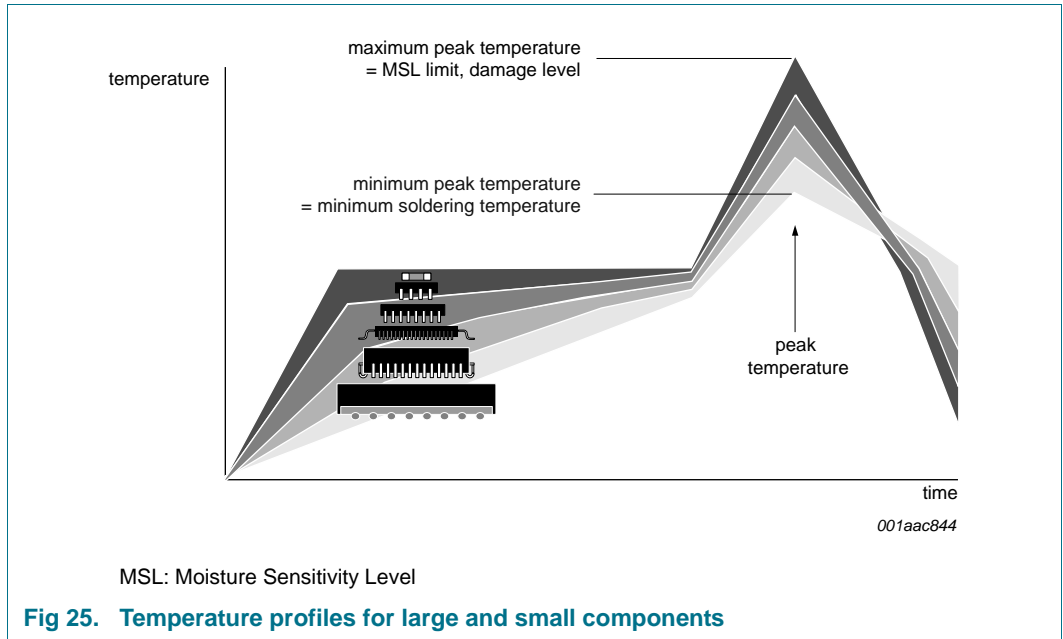

Fig 25. Temperature profiles for large and small components
- Lead-free versus SnPb soldering; note that a lead-free reflow process usually leads to higher minimum peak temperatures (see Figure 25) than a SnPb process, thus reducing the process window
Studies have shown that small packages reach higher temperatures during reflow soldering, see Figure 25.